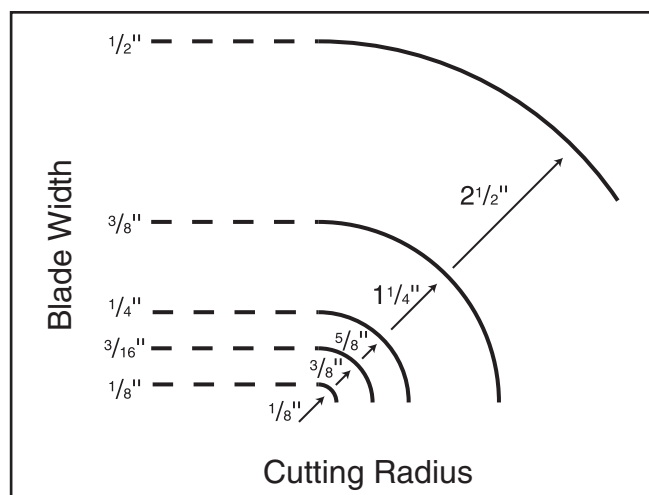

Figure 33. Blade width radii.
- **Curve Cutting:** Use the chart in **Figure 33** to determine the correct blade for curve cutting. Determine the smallest radius curve that will be cut on your workpiece and use the corresponding blade width.